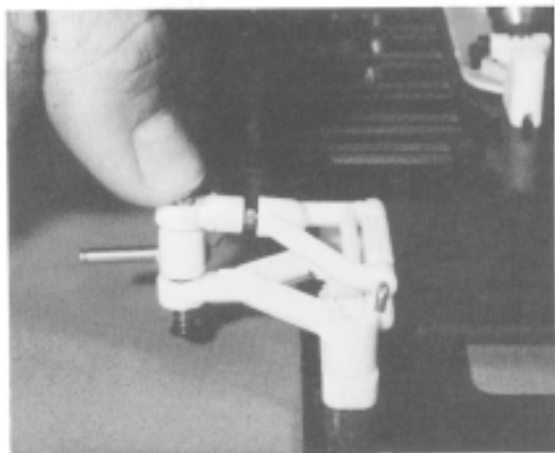

Fig. 14
□ **Fig. 14** Take your thumb and push down on the top of the kingpins so that all of the free play is taken up by the spring.